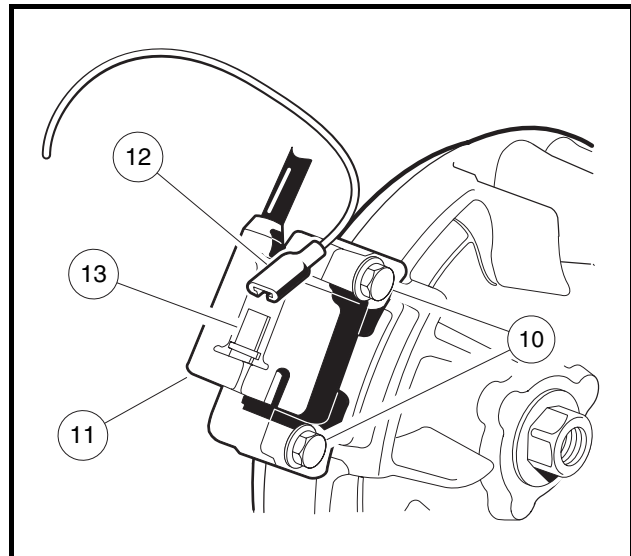

Figure 13-25 Black Wire and Ignition Coil
10. Disconnect the 18-gauge black wire (12) from the spade terminal (13) on the ignition coil (11) and remove the coil by removing two bolts (10) (Figure 13-25, Page 13-25).
11. Connect 18-gauge black (12) wire to the spade terminal (13) on the coil (Figure 13-25, Page 13-25).